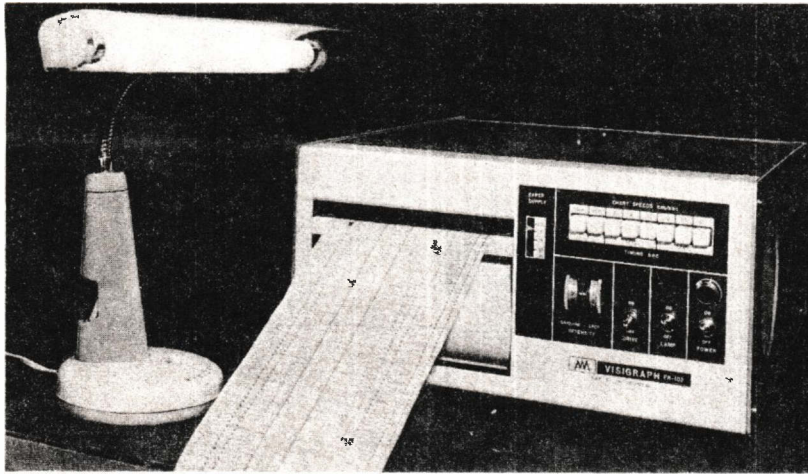

Fig. 10. UV recorders provide traces by exposure of photographic paper. Further exposure is needed to bring the latent image into view.
**Photographic paper:** The earliest photographic systems used negative film. Such systems are still in use today but the majority of the highest speed recorders (30 kHz is possible) use ultraviolet light to expose specially treated paper. Exposure produces a latent (invisible) image which needs further exposure to form the visible image. This is shown in Fig. 10: the fluorescent lamp intensifies the traces.